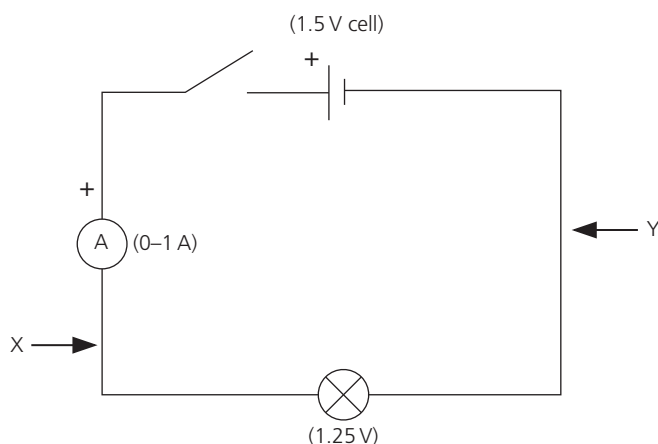

Figure 1
- 1 a Set up the circuit shown in Figure 1, making sure that the + terminal of the cell goes to the + terminal (red) of the ammeter.